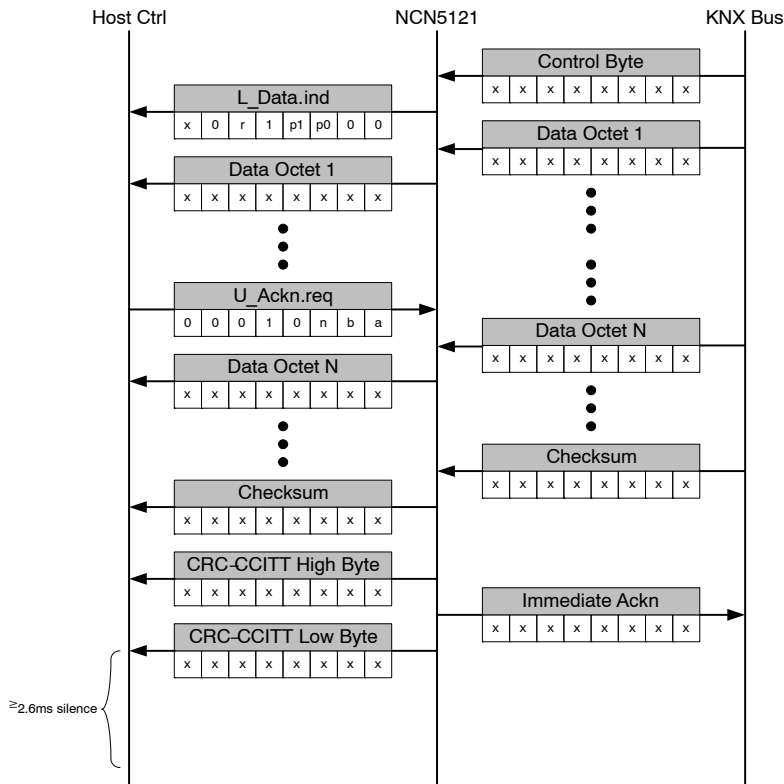

**Figure 50. Receive Frame, SPI or 8-bit UART Mode, Frame End with Silence, No CRC-CCITT**
**Remarks on Figures 50 to 55:**